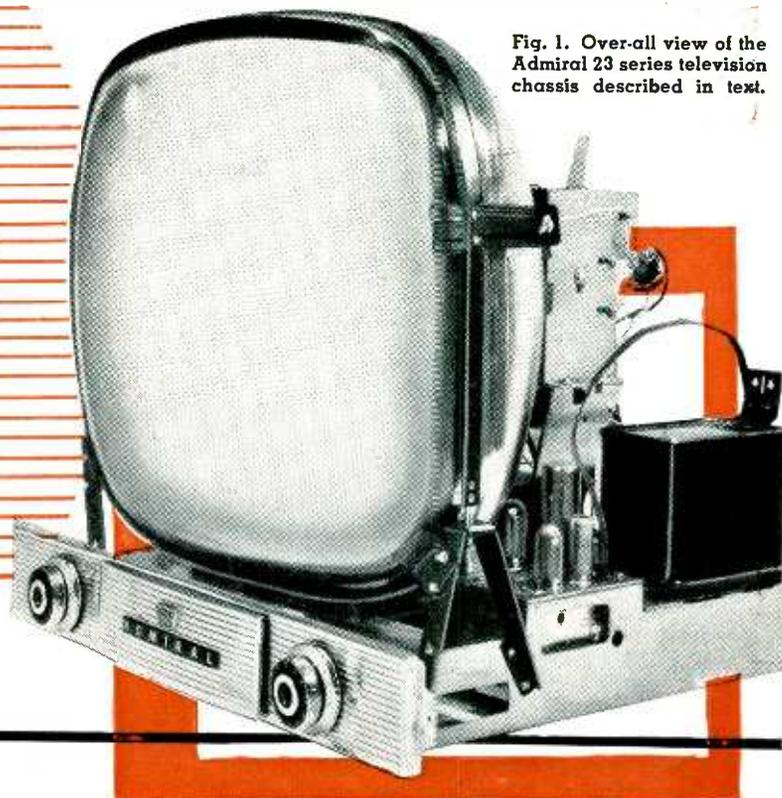

Fig. 1. Over-all view of the Admiral 23 series television chassis described in text.
**R. F. Section.** Circuit-wise, the 1954 *Admiral* 23-series receiver (shown in Fig. 1) follows closely the arrangement established by its predecessor, the *Admiral* 22-series chassis. A low-noise dual-triode 6BZ7 is used in the tuner r.f. amplifier. The circuit (see Fig. 2) is the familiar cascode amplifier which provides higher gain, with reduced noise level, than previous types, and results in a clearer picture in weak-signal areas. Characteristic of the cascode circuit is the direct coupling between the plate of the first triode and the cathode of the second section. Thus, a common current flows through both tubes and a.g.c. bias applied to the first triode grid will be effective for both tubes. Further, since the cathode of the second triode is